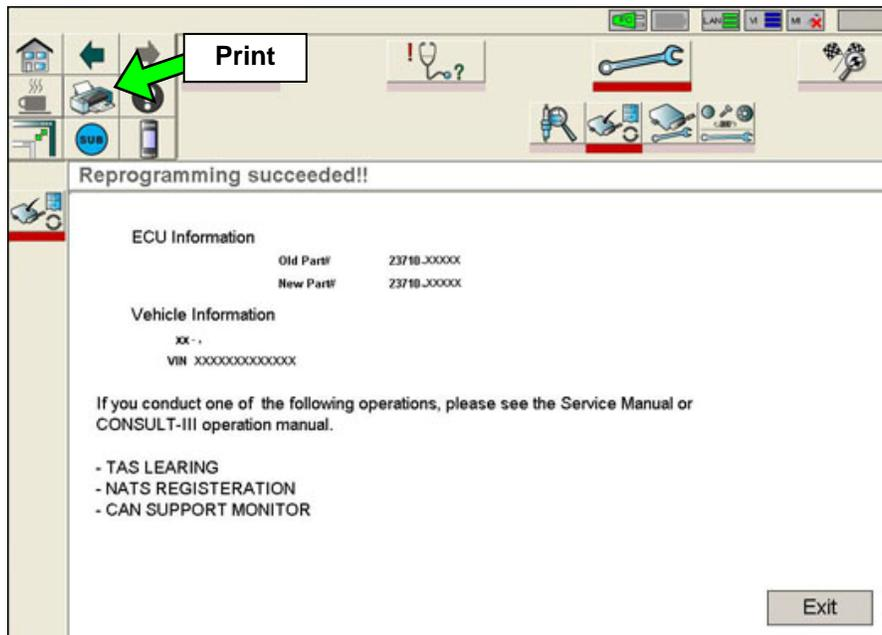

Figure 10
21. When the screen in Figure 10 appears, ECM reprogramming is complete.
**NOTE:** If the screen in Figure 10 does not display (reprogramming does not complete), click here to link to the ECM REPROGRAM INTERRUPTION RECOVERY General Procedure.
**NOTE:** If you saved a copy of the screen in Figure 10 and need to print it at a later date, you can find it in the following file location: